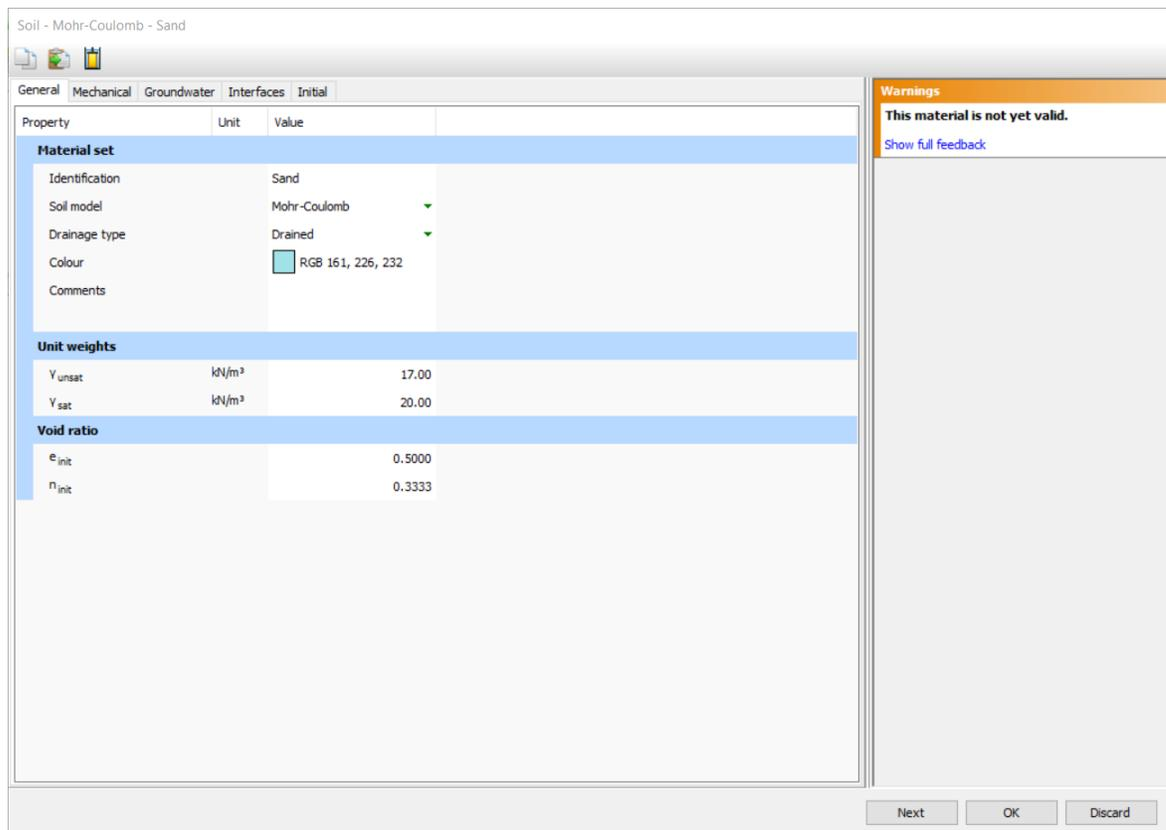

Figure 7: The **General** tabsheet of the **Soil** window
4. Enter the proper values in the **General properties** box (Figure 7 (on page 17)) according to the material properties listed in Table 1 (on page 15). Keep parameters that are not mentioned in the table at their default values.
- As displayed in Figure 7 (on page 17) a **Feedback side panel** is included in the **Material** window. This panel prevents the definition of an invalid material data set. To display the list of detailed messages please select *Show full feedback*. Three types of messages are possible: